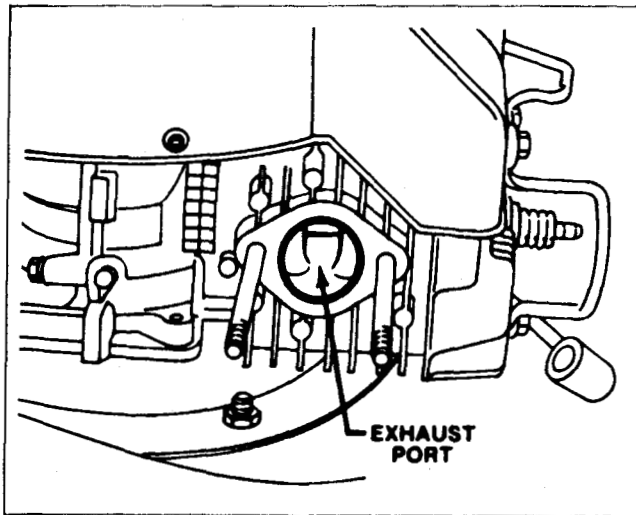

Figure 8
3. Pull the wire off the spark plug. Slowly pull the recoil starter so the piston covers exhaust port. See Figure 8.